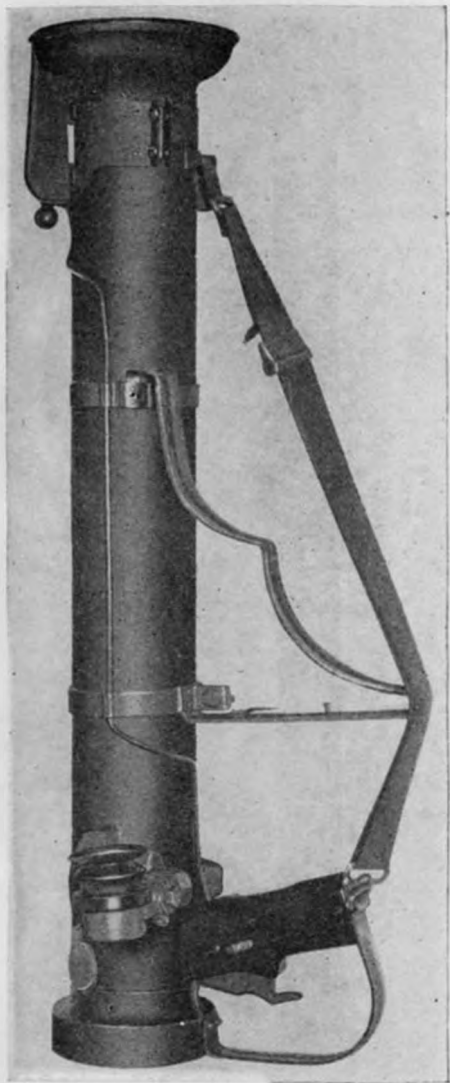
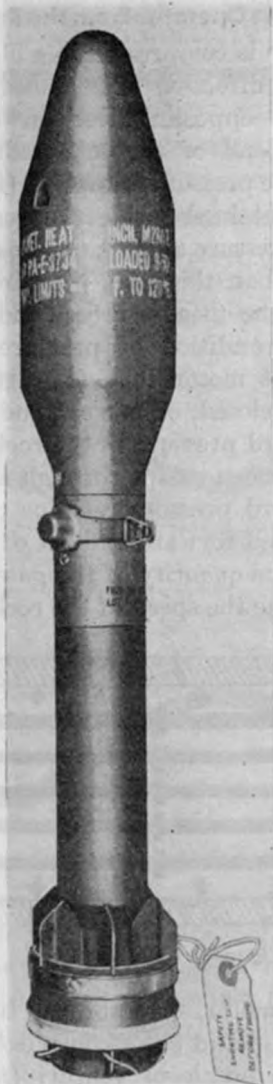

Figure 1. Rear barrel, 3.5-inch rocket launcher M20A1.
Figure 3. 3.5-inch rocket HEAT M28A2.
a. This manual describes the characteristics, functioning, maintenance, steps of preparatory marksmanship, technique of fire, and range control for the standard 3.5-inch rocket launchers, M20A1 and M20A1B1 (figs. 1 and 2). It discusses the types of ammunition, including general characteristics, capabilities, and limitations, and the functioning of the rocket (fig. 3).